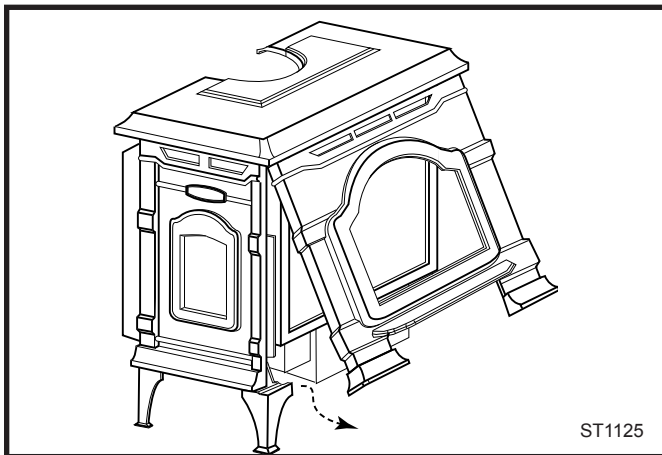

Fig. 57 Remove the stove front.
2. Lift the Stove Front up and then swing the bottom out to disengage it from the heater shell. (Fig. 57)